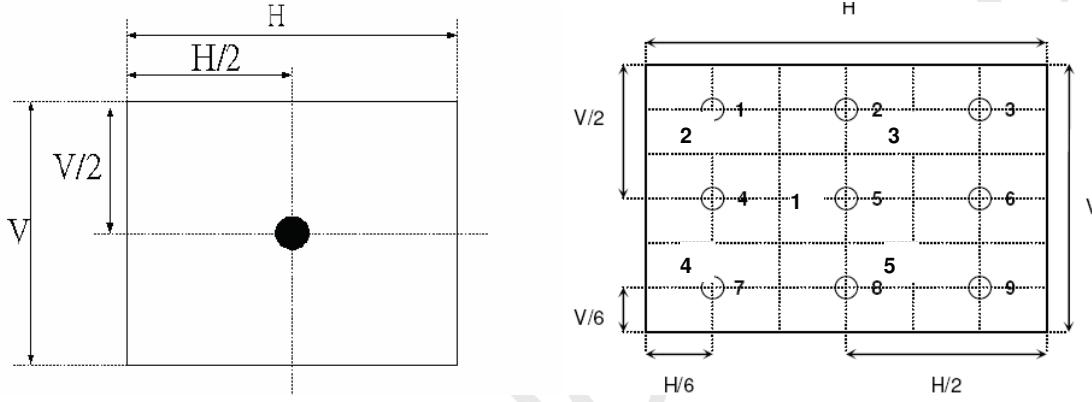

Fig.4-2 Optical measurement point
2. Surface luminance is luminance value at point 1 across the LCD surface 50cm from the surface with all pixels displaying white. From more information see Fig. 4-2. When  $V_{DDB} = 24V$ ,  $I_{DDB} = 12.5 A$ .  $L_{WH} = L_{on1}$ , Where  $L_{on1}$  is the luminance with all pixels displaying white at center 1 location.